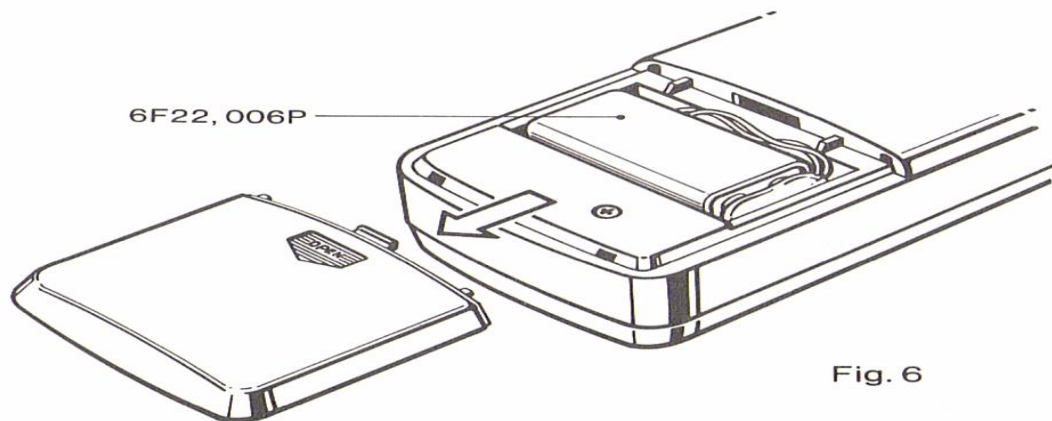

Fig. 6
- (1) Disconnect all test leads from the instrument and set the function/range switch to OFF position.
- (2) Replace the battery by sliding the battery compartment cover in the arrowed direction. (Fig. 6)
- (3) Install a new battery Type 6F22, 006P 9V (or equivalent) dry battery.